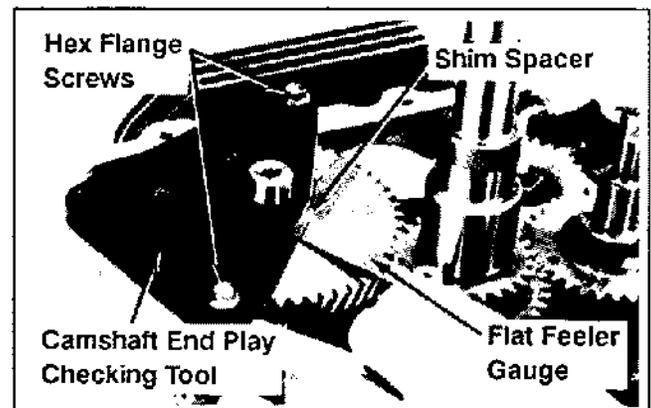

Figure 11-13. Checking Camshaft End Play.
2. Install the camshaft end play checking tool no. KO-1031 to the crankcase and camshaft. Secure the tool to the crankcase with the hex flange screws provided. See Figure 11-13.